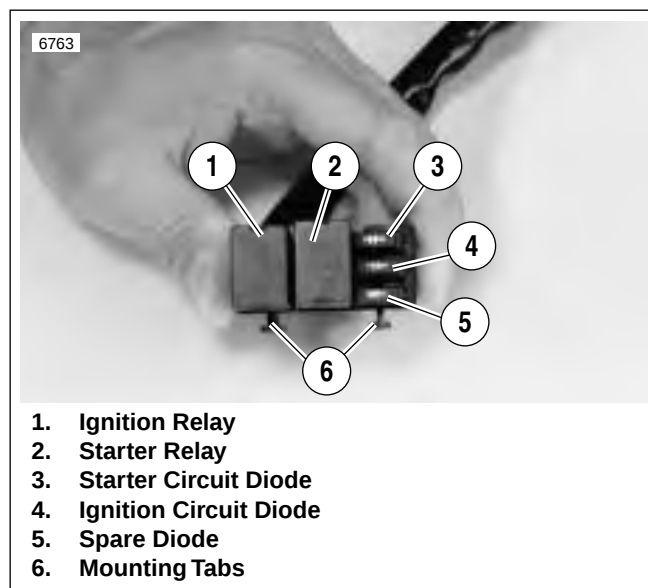

Figure 7-55. Relay Block
See Figure 7-55. The block contains two relays (1, 2), two diodes (3, 4) and one space for a replacement diode (5).